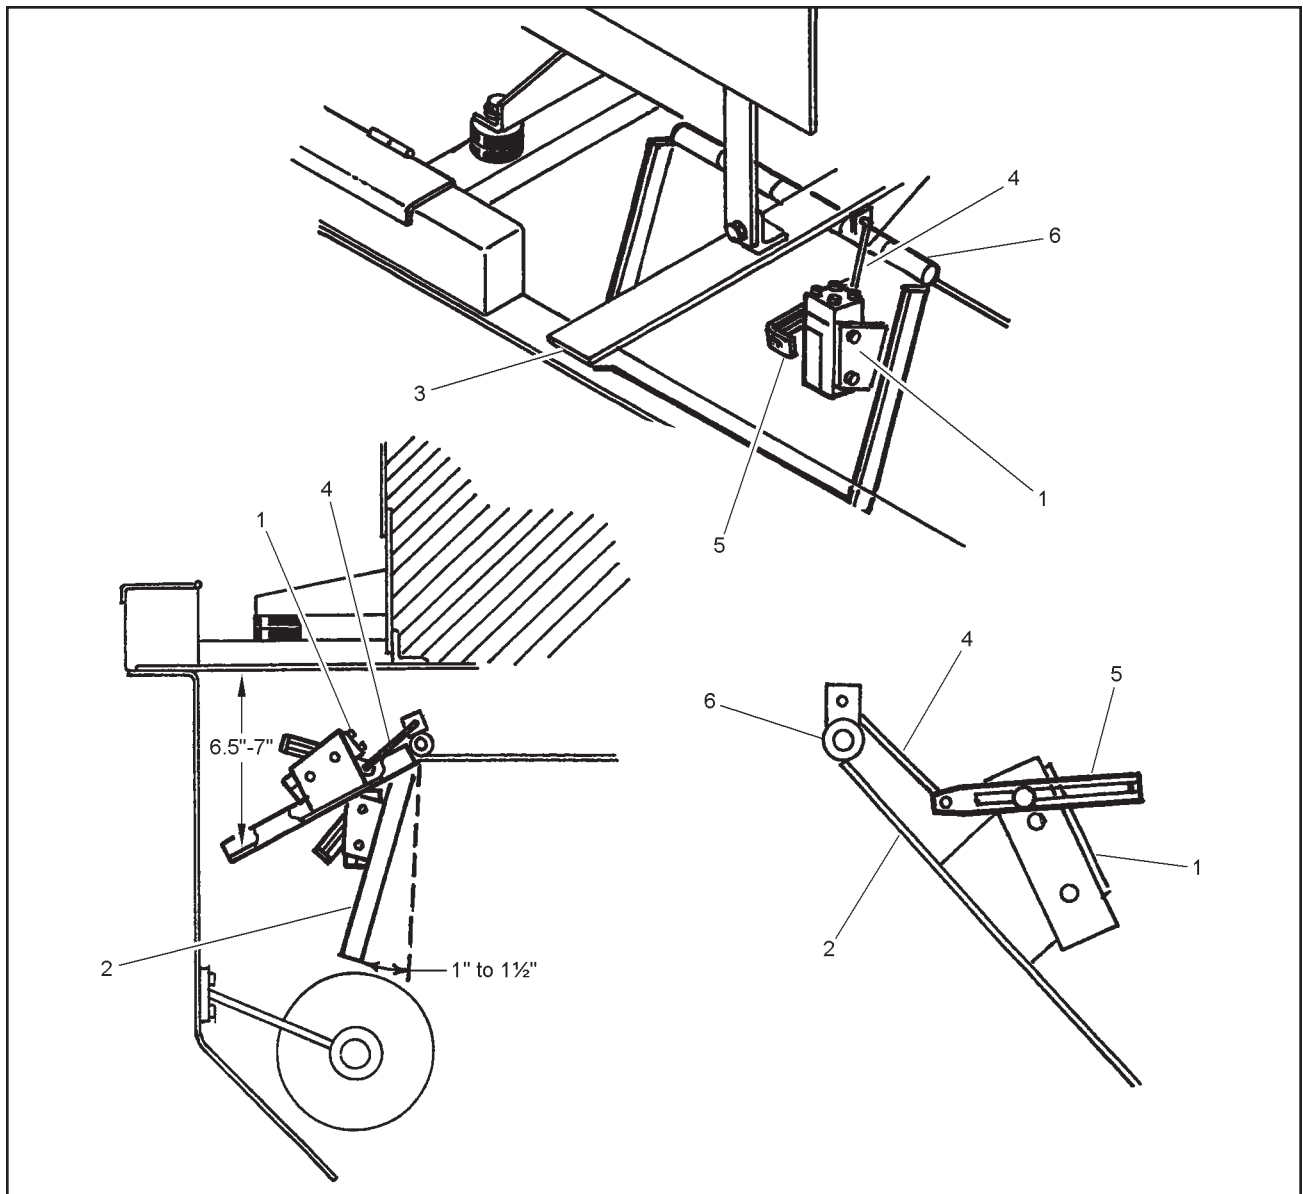

FIGURE 4-11. CONVEYOR MICRO-SWITCH LOCATION
In order for the conveyor's start and stop to occur at the correct position, small adjustments may be necessary to the micro-switch (see Figure 4-11, item 1) located on the conveyor flap (item 2). There are two positions of the conveyor flap: one upper, shutting the conveyor OFF, and one lower, turning the conveyor ON. Read the following procedures carefully, referring to the figures as needed.
1. Raise the conveyor flap (item 2) 6-1/2 to 7 in. (16.5 to 17.8 cm) from bottom of the tank mount support (item 3). Secure conveyor flap so it remains in this position. If micro-switch clicked OFF within the 6 1/2 to 7 in. (16.5 to 17.8 cm) limit, no further adjustment is required to the upper travel.
2. If the micro-switch (item 2) did not click OFF, adjustment is needed. Remove the linkage (item 4) attaching the actuator arm (item 5) to the eyelet on the flap pivot housing (item 6).